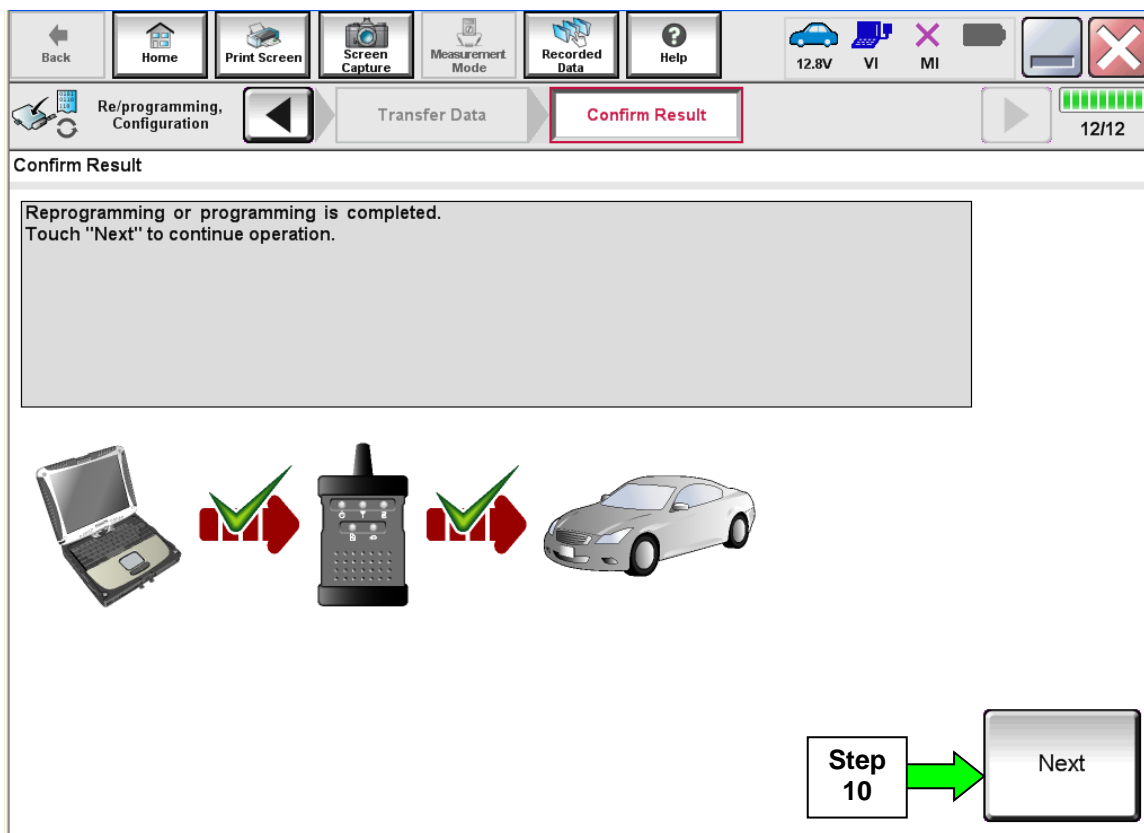

Figure 4
8. When the screen in Figure 4 displays, reprogramming is complete.
**NOTE:** If the screen in Figure 4 does not display (indicating that reprogramming did not complete), refer to ECM recovery on the next page.